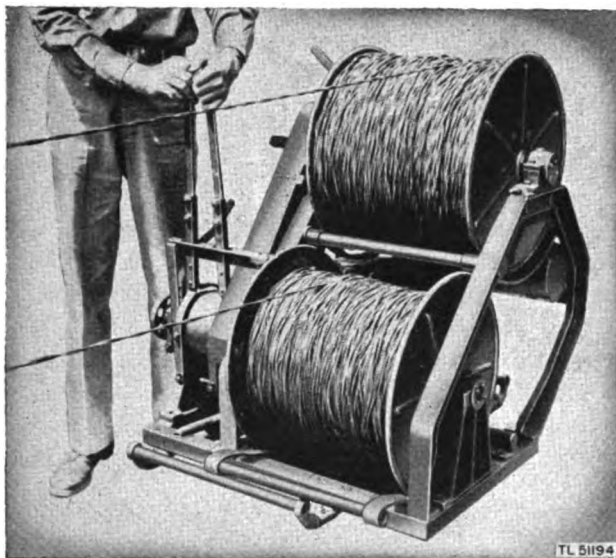

Figure 13. Ground installation of Reel Unit RL-26.
a. **GROUND INSTALLATION.** A typical ground installation is shown in figure 13. The engine is being used as a power source. The operator has both main clutches engaged, and the wire is being reeled in on both reels simultaneously.